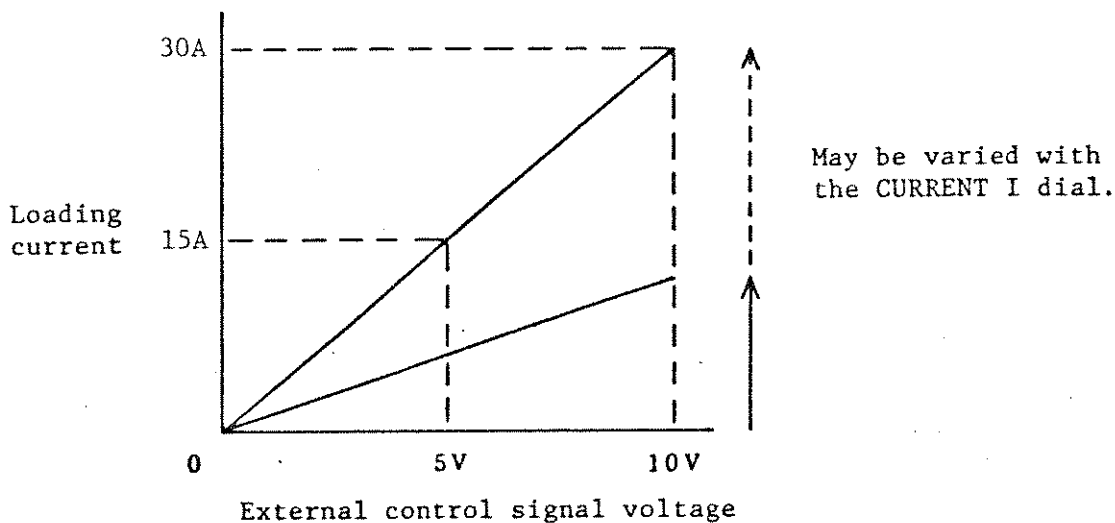

Figure 2-13-2
4. The relation between control signal voltage and loading current is adjusted such that the corresponding current to an input of 10 V, will be 30 A, as indicated in Fig. 2-13-2. The current value may be decreased with the CURRENT I dial. The control signal voltage should not exceed 10 V.